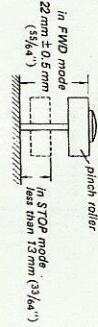

Fig. 11-9 Pinch roller height adjustment
(7) Loosen the pinch roller height adjusting screw shown in Fig. 12.1 and adjust by moving the shaft upwards or downwards to obtain the values specified in Fig. 11.9.